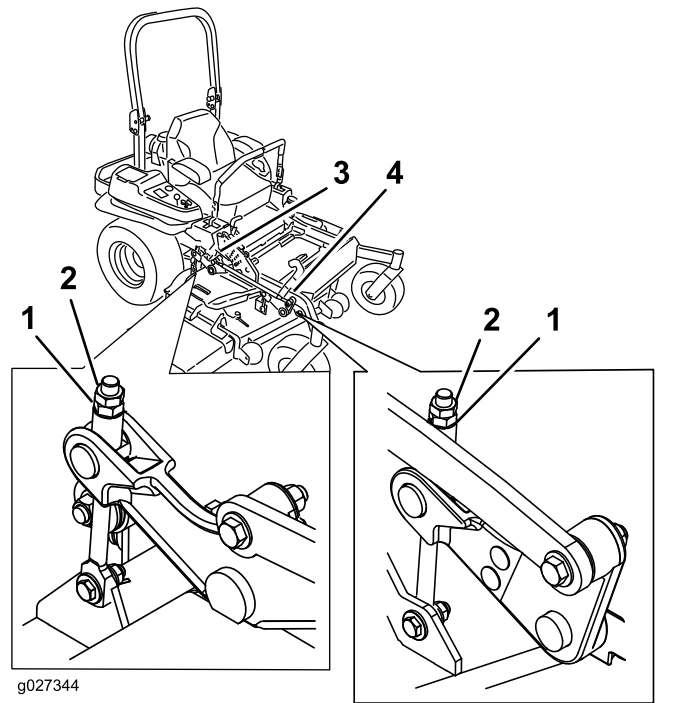

Figure 96
9. Fine-tune the adjustment nut on the front deck-lift assembly by turning it (Figure 96).
15. Fine tune the screw adjuster by turning it to get 8.3 mm (3-1/4 inches) height (Figure 96).